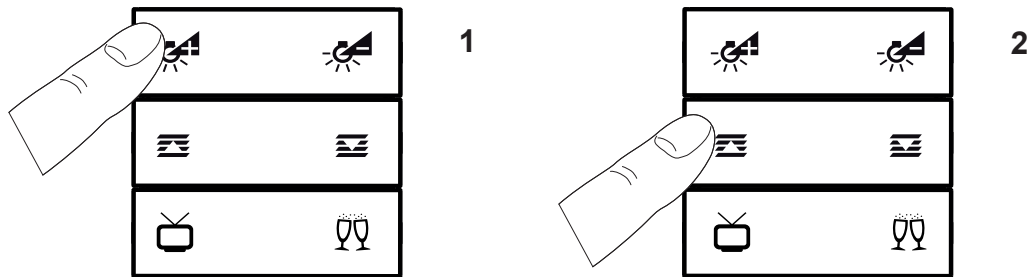

Figure 28: Setting new scene parameters
- Change lighting intensity, dim brighter or darker (Bild 28, 1)
- Change, open or close blind position (Bild 28,-2)